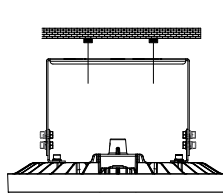
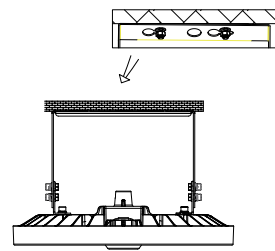

Fig 5
Fig 6
3. Align the bracket hole with screw hole (Fig 5), and push the fixture to one side (Fig 6) and fix it.